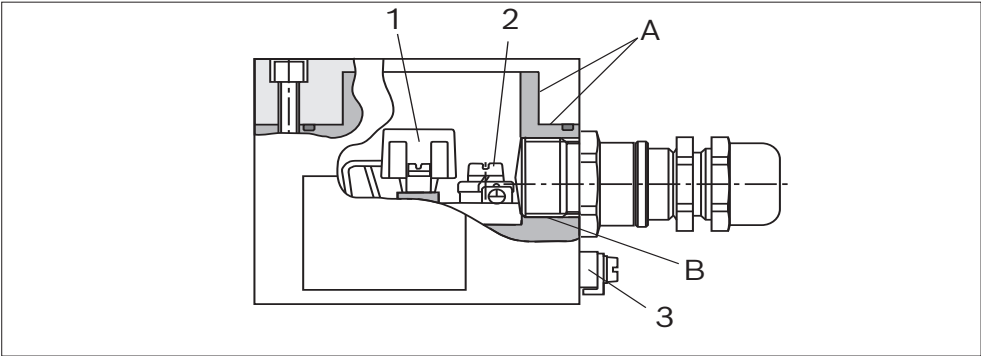

Fig. 4: Gap for pressure-resistant enclosure
- ▶ The wires of the connection line are connected to the 2 pin operating voltage connection and the protective grounding conductor. The separate equipotential bonding conductor must be connected to the connection for potential equalization conductor. For the position of the connection, see fig. 4.
The terminal box with its cover in the marked **area A** and the cable and line entry in the **area B** (fig. 4) will create a pressure-resistant gap. To ensure explosion protection, these gaps may not be modified. No damage, contamination and coloring is admissible on surfaces forming a pressure-resistant gap.